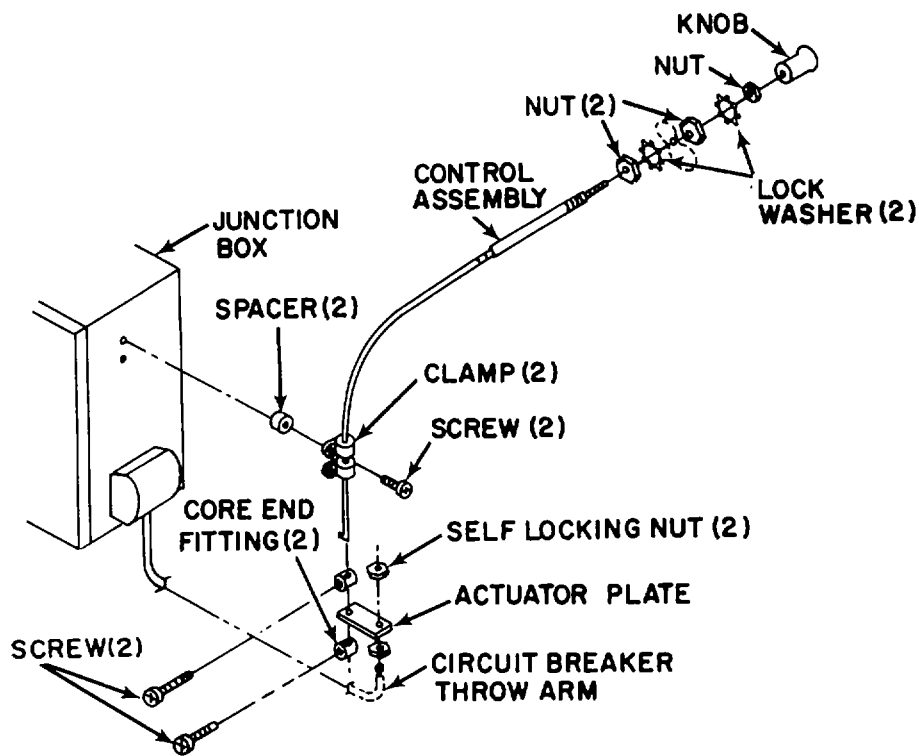

Figure 4-26. Circuit Breaker External Reset Control
- (1) Mount and secure control panel to junction box with four screws.
- (2) Slide capacitor C4 into two mounting clamps on junction box.
- (3) Tighten two screws on two capacitor mounting clamps.
- (4) Place junction box far enough in unit to attach ground wires.
- (5) Secure ground wires on grounding stud with two washers and locknut.
- (6) Secure junction box cover to junction box with four panel fastener screws.
- (7) Position loop clamps on cable assembly.
- (8) Install lower end fitting on cable as shown in figure 4-26.
- (9) Secure loop clamps to junction box.
- (10) Connect electrical plugs P4, P8 and P10.
- (11) Position junction box in unit.
- (12) Secure four panel fastener screws in flanges of junction box.